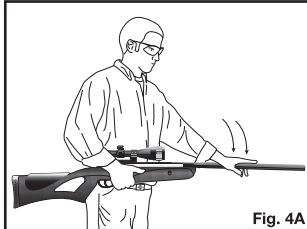

Fig. 4A
- Holding the gun close to your body, firmly tap the muzzle. (Fig. 4A)